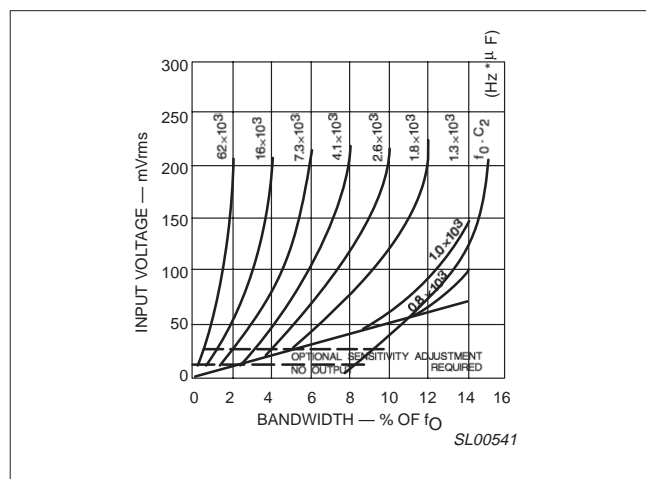

Figure 4. Bandwidth vs. input signal amplitude
2. Select the low-pass capacitor,  $C_2$ , by referring to Figure 4, 'Bandwidth vs. input signal amplitude'. If the input amplitude variation is known, the appropriate value of  $f_O \cdot C_2$  necessary to give the desired bandwidth may be found. Conversely, an area of operation may be selected on this graph and the input level and  $C_2$  may be adjusted accordingly. For example, constant bandwidth operation requires that input amplitude be above  $200\text{mV}_{\text{RMS}}$ . The bandwidth, as noted on the graph, is then controlled solely by the  $f_O \cdot C_2$  product ( $f_O$  (Hz),  $C_2(\mu\text{F})$ ).